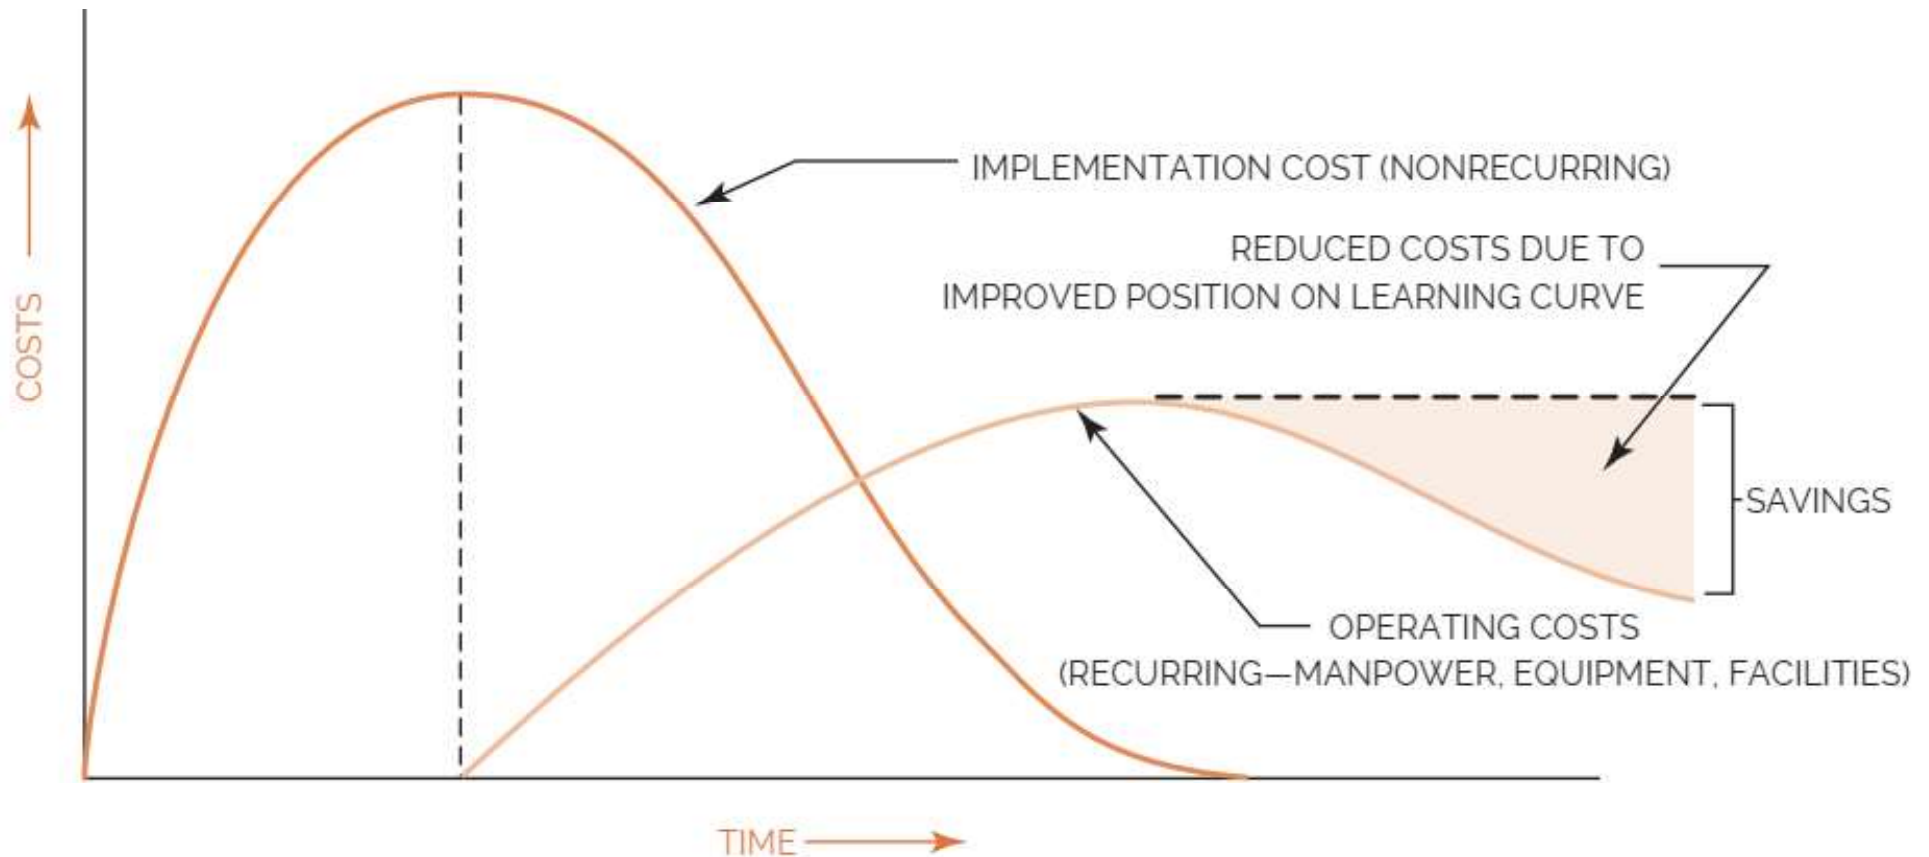

Fig 5.2: System Costs
- i. System Costs (continued...):* As shown in Figure 5.2 next slide, most project or system costs can be broken down into operating (recurring) and implementation (nonrecurring) categories. The implementation costs include one-time expenses such as construction of a new facility, purchasing computer hardware etc. Operating costs, on the other hand, include recurring expenses such as manpower. The operating costs may be reduced due to improved position on learning curve. The learning curve is a graphical representation of repetitive tasks that, when done on a continuous basis, lead to a reduction on activity duration, resources and costs.